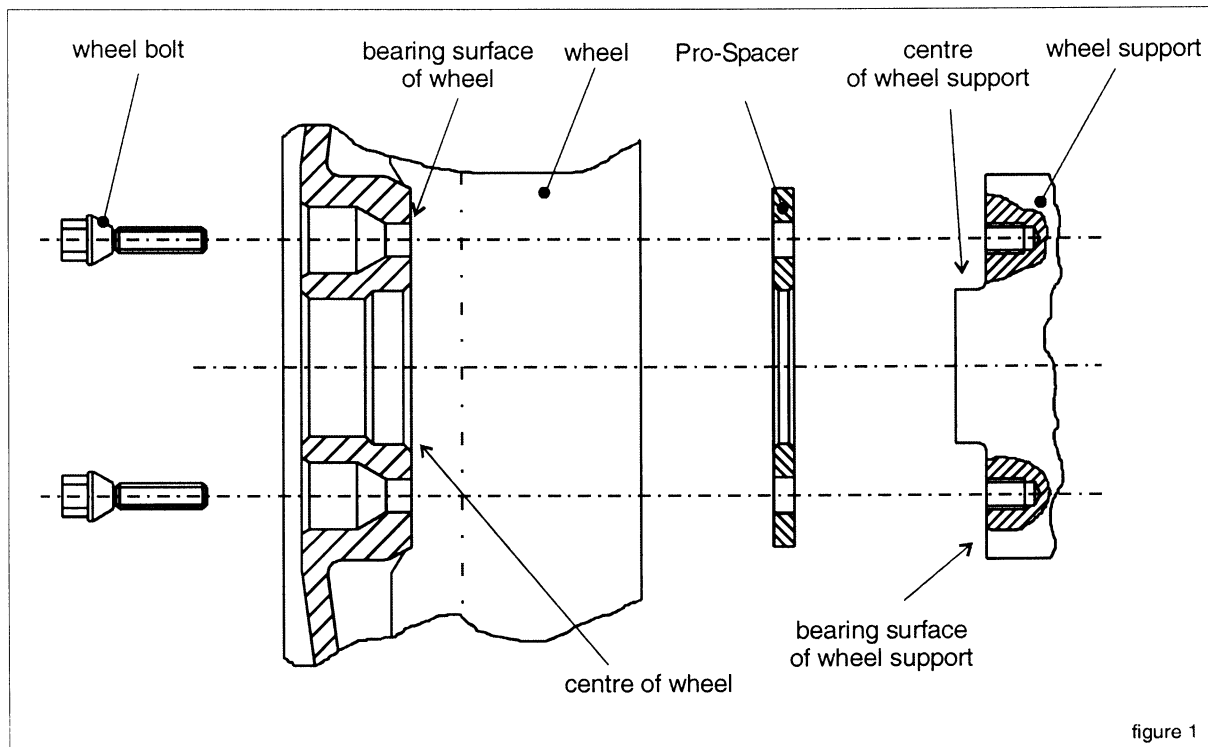

figure 1
1. Die Mittenzentrierungen und Anlageflächen des Radträgers und des Rades (Bild 1) müssen von Rost und Schmutz befreit und gereinigt werden. Verwenden Sie hierzu eine Drahtbürste und gehen Sie vorsichtig vor, um andere Bauteile nicht zu beschädigen.
1. The centre alignments and bearing surfaces of the wheel support and the wheel (Figure 1) must be free of rust and dirt and clean. Use a wire brush for this purpose and proceed with caution, to avoid damaging other components.
2. Check that the centre alignment and the hole pattern of the spacer ring are suitable for your vehicle and the wheel. To do this, place the spacer ring on the wheel support and check that it is positioned free of play and that the holes coincide. Existing locking screws and retaining clips for brake disks / drums must be removed if required by the parts specification. Then perform the same check between wheel and spacer ring. Also check that the length of the centre alignment on the wheel support is long enough to align the wheel after fitting the spacer. If you discover any deviations, compare the part numbers stated in the specification with the part marking again. If necessary, please contact our Development Department on tel. no. +49 (0) 2721 / 511-342. Please have the motor car certificate, the wheel specification (for special wheels), the **Pro-Spacer** parts specification and the part marking ready.